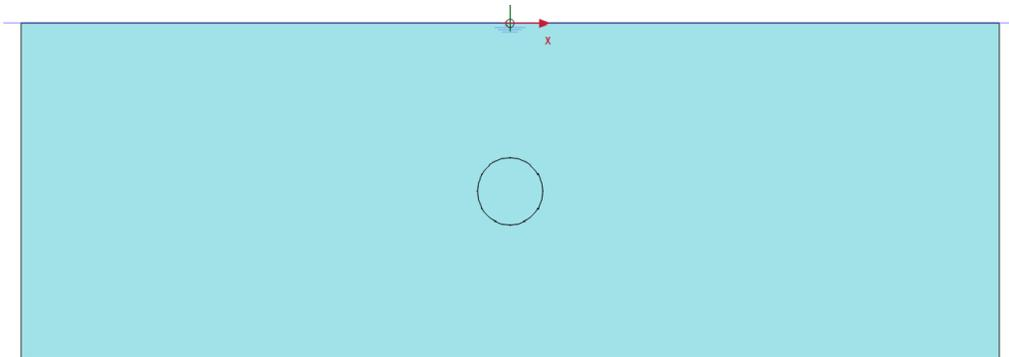

Figure 246: Initial phase
6. The model for initial phase is shown in Figure 246 (on page 278).